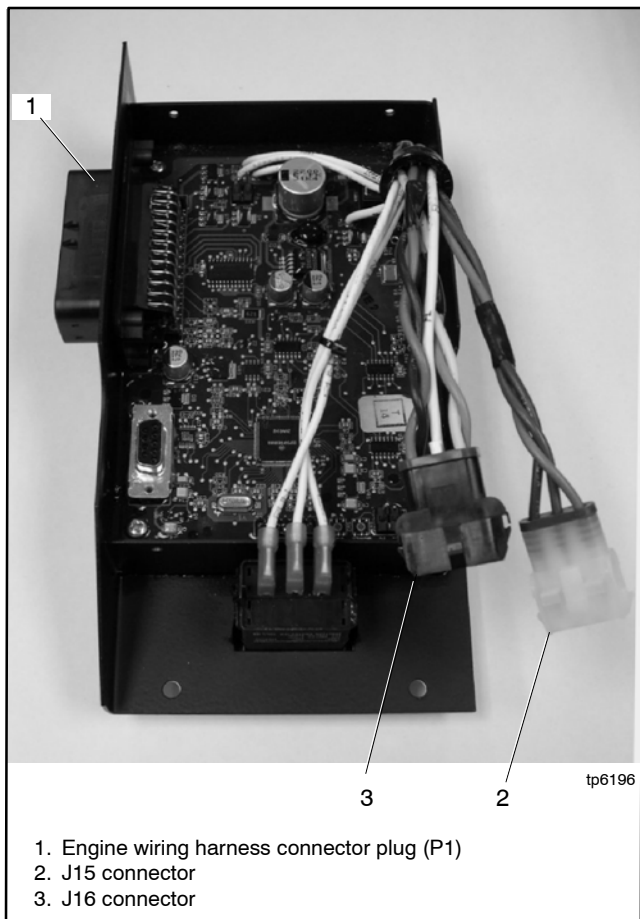

Figure 4-11 Controller Connections
6. Disconnect plugs P1, P15, and P16 from the ADC controller. See Figure 4-11.